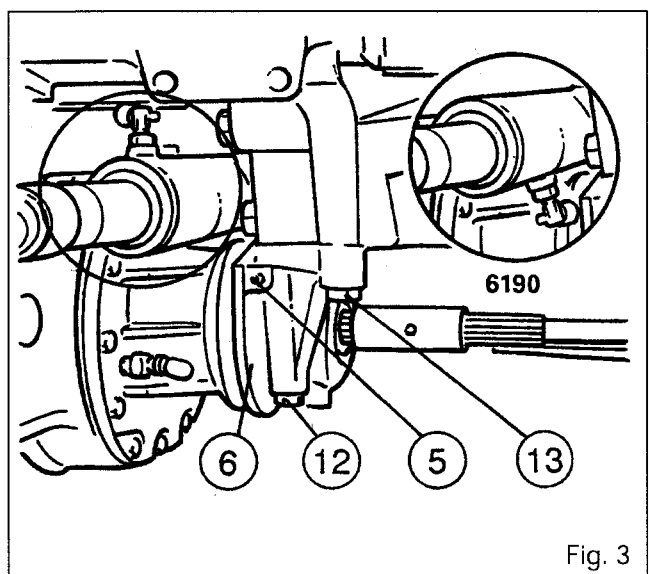

Fig. 3
Rear attachment of the AG 155 axle assembly is provided by a bearing (6) (Fig. 3) that is different from the one fitted on tractors 6160 to 6180. The lower section of the frame is specially moulded to allow the installation of the bearing, attached by bolts (12) and (13).
7. Remove the bolts (12) and (13) (Fig. 3). Remove the front axle with the bearing (6).
8. Dismount the bearing from the front axle. Remove the washer (7) and the dust guard (8).
9. Replace the dust guard (8). Position the washer (7) with the chamfer facing the axle housing (52). Assemble the bearings (6) on the front axle.
10. Hoist the front axle with slings. Fit the front axle assembly and the bearing. Fit the bolts (12) and (13).